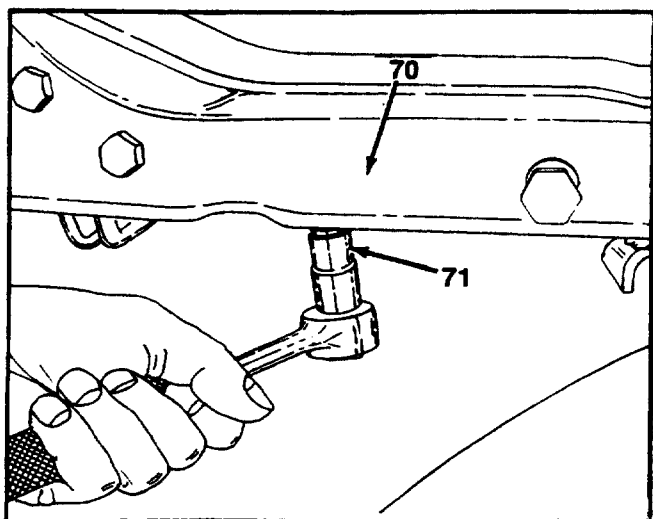

FIGURE 35.
38. Remove (back) hex bolt on each side of frame, holding the engine cradle to the frame. See figure 35.